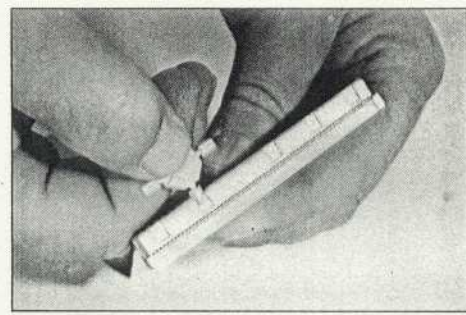

figure 11
1. Insert the wedge shaped 3435-1 Keying Plug into one of the keying positions on side of the 6964 Socket Connector. Break off the tab. (fig. 11)